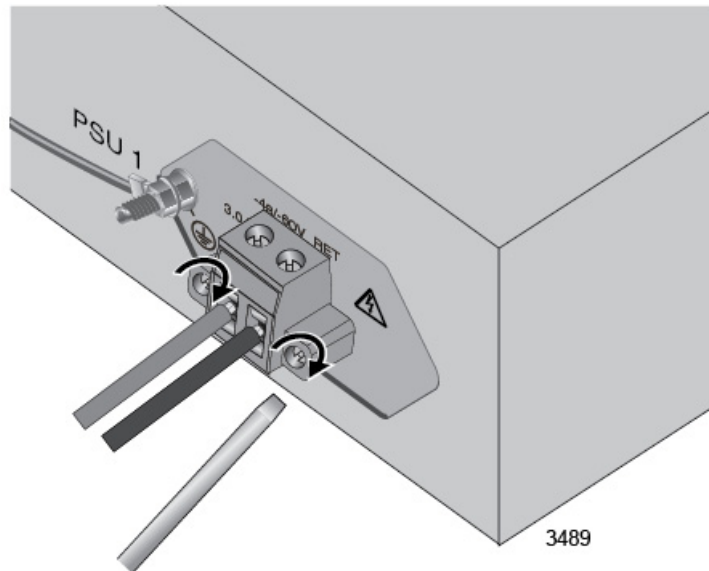

Figure 40. Securing the DC Connector to the Switch
10. Tighten the two captive screws on the sides of the DC connector to secure the connector to the switch. Refer to Figure 40.